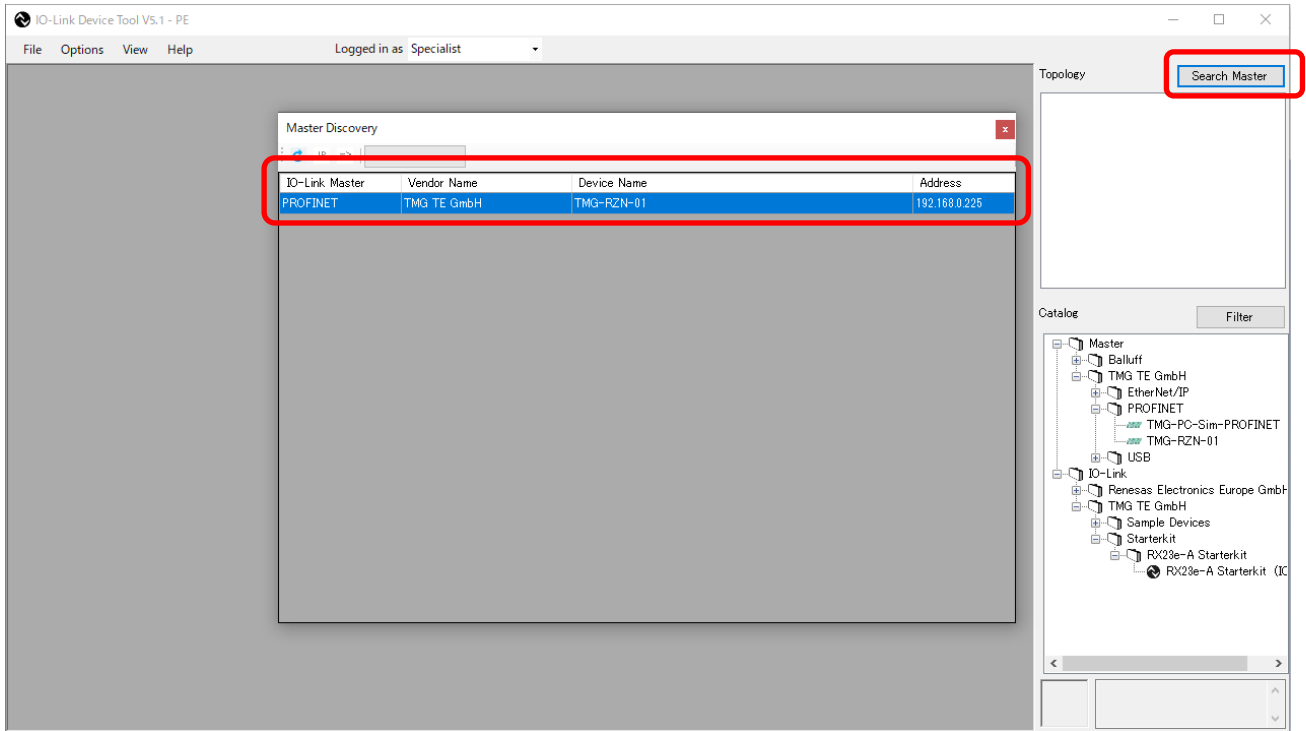

Figure 5-6 IO-Link Device Tool V5.1 – PE (Search for IO-Link master)
1. Click the "Search Master" button at the top right of the window. As shown in Figure 5-6, RZ / N1SIOlink will be displayed in the "Master Discovery" window.